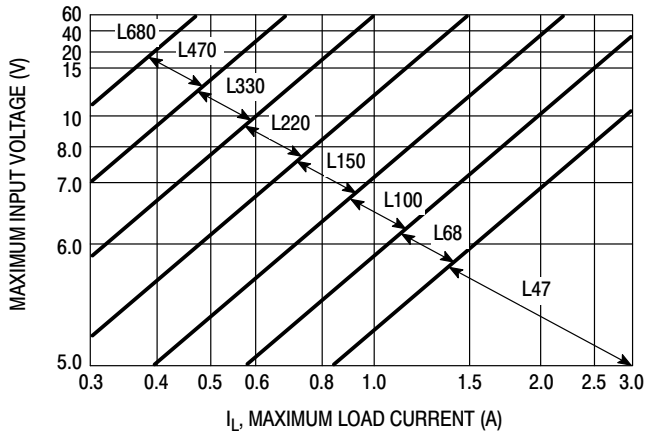
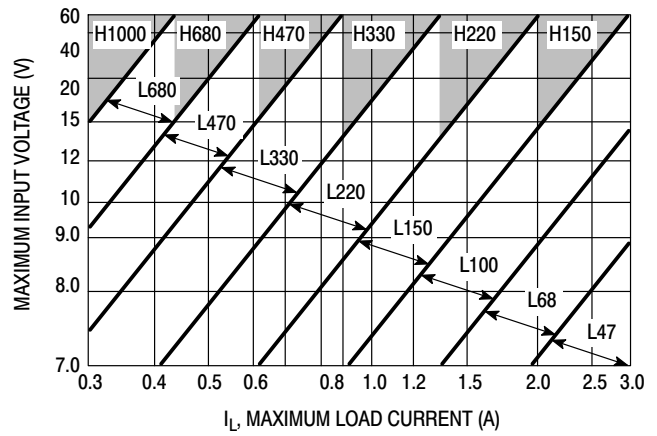

Figure 18. LM2576-3.3
Figure 19. LM2576-5
4. Inductor Selection (L1) A. According to the required working conditions, select the correct inductor value using the selection guide from Figures 18 to 22. B. From the appropriate inductor selection guide, identify the inductance region intersected by the Maximum Input Voltage line and the Maximum Load Current line. Each region is identified by an inductance value and an inductor code. C. Select an appropriate inductor from the several different manufacturers part numbers listed in Table 2. The designer must realize that the inductor current rating must be higher than the maximum peak current flowing through the inductor. This maximum peak current can be calculated as follows: $I_{p(max)} = I_{Load(max)} + \frac{(V_{in} - V_{out}) t_{on}}{2L}$ where t_{on} is the “on” time of the power switch and $t_{on} = \frac{V_{out}}{V_{in}} \times \frac{1.0}{f_{osc}}$ For additional information about the inductor, see the inductor section in the “Application Hints” section of this data sheet.	4. Inductor Selection (L1) A. Use the inductor selection guide shown in Figures 19. B. From the selection guide, the inductance area intersected by the 15 V line and 3.0 A line is L100. C. Inductor value required is 100 μ H. From Table 2, choose an inductor from any of the listed manufacturers.
To simplify the inductor selection process, an inductor selection guide for the LM2576 regulator was added to this data sheet (Figures 18 through 22). This guide assumes that the regulator is operating in the continuous mode, and selects an inductor that will allow a peak-to-peak inductor ripple current to be a certain percentage of the maximum design load current. This percentage is allowed to change as different design load currents are selected. For light loads (less than approximately 300 mA) it may be desirable to operate the regulator in the discontinuous mode, because the inductor value and size can be kept relatively low. Consequently, the percentage of inductor peak-to-peak current increases. This discontinuous mode of operation is perfectly acceptable for this type of switching converter. Any buck regulator will be forced to enter discontinuous mode if the load current is light enough.